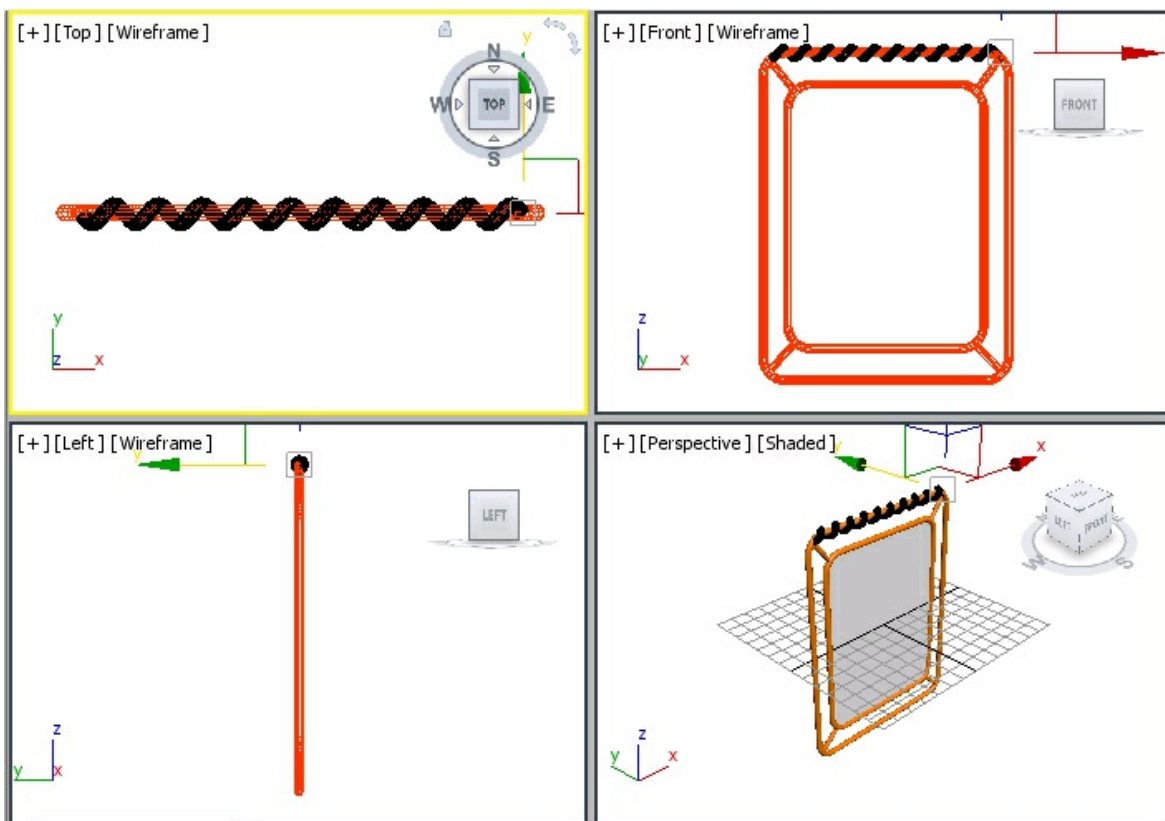

Figure 5-63 The design1 geometry aligned in the viewports
6. Align *design1* using the **Select and Move** and **Select and Rotate** tools in the viewports, as shown in Figure 5-63.